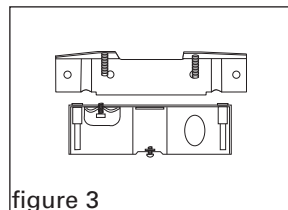

figure 3
1. Remove the bracket by removing the two nylon locknuts inside the box (figure 3).